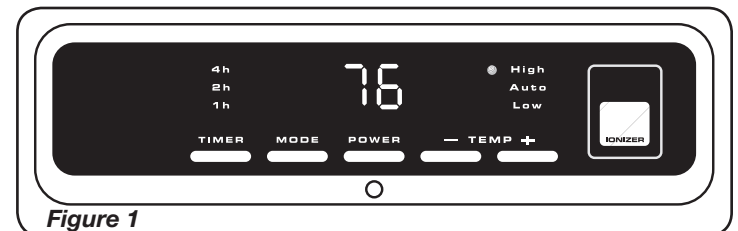

Figure 1
7. Upon turning the Heater on, the unit will be in HIGH heat (1500 Watts) and will display the current room temperature (**Figure 1**)